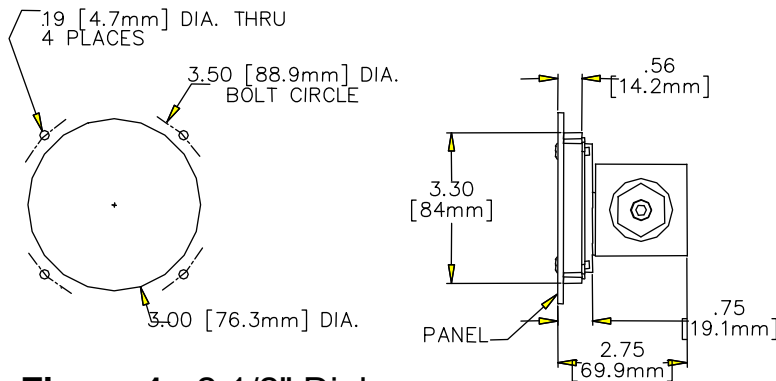

Figure 1. 2 1/2" Dial
Gauges with 2-1/2" dials can only be mounted through the **rear** of the panel. Make the proper panel cutout as indicated in (Fig .1). Remove the (4) bezel screws. Insert the gauge front through the rear of the panel and reinstall the bezel screws through the front of the panel and into the gauge bezel. Tighten the screws securely, alternating in a **diagonal** pattern.